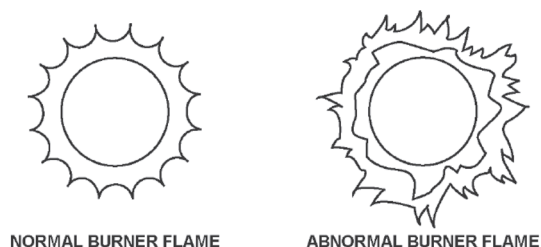

Figure 50. Normal and Abnormal Burner Flames
You should also check for sooting. Soot is not normal and will impair proper combustion. A visual inspection of the main burner and igniter assembly should also be done at least once a year. See **Figure 50**.
- Cause no excessive lifting of flame from burner ports. See **Figure 50**.